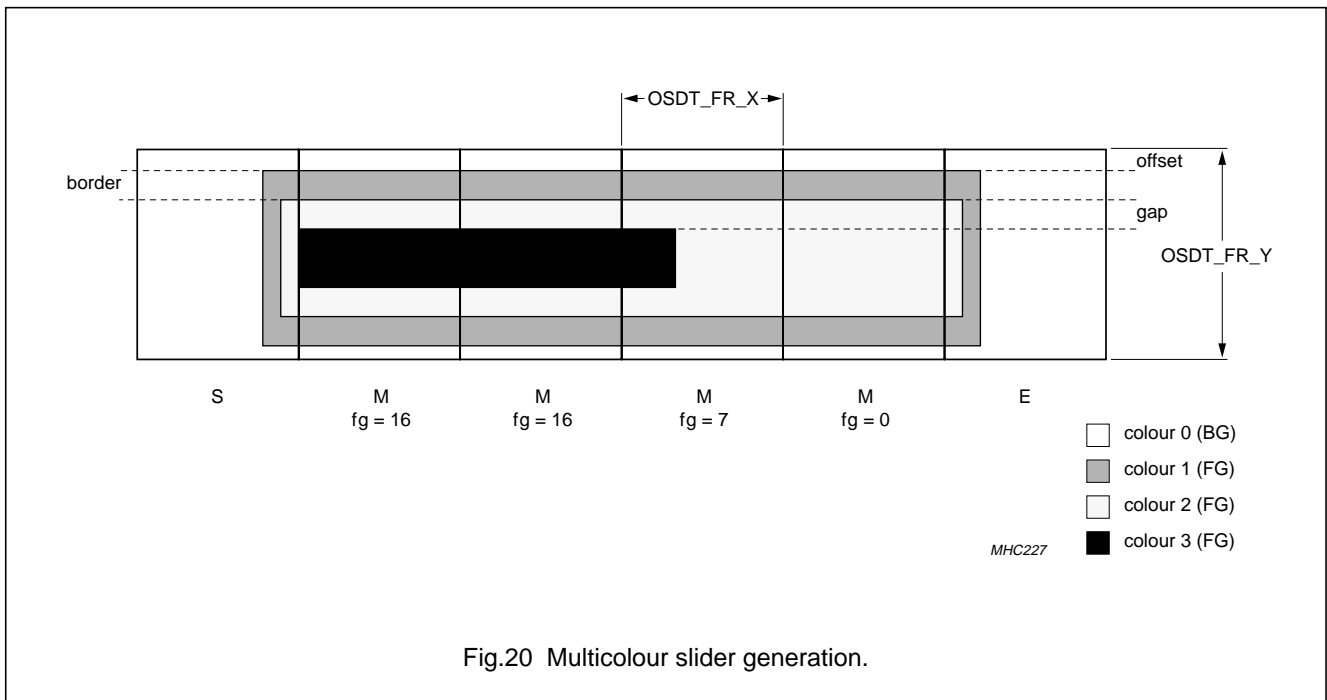

Fig.20 Multicolour slider generation.
When putting together a slider with multiple characters (see Fig.20), a slider always consists of three basic parts: a start part (S), a middle part (M) with different fill grades (fg) and an ending part (E).